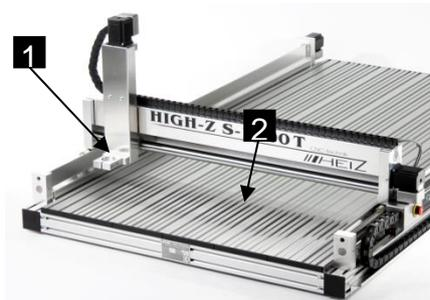

Fig. 17: Working Areas
- area of the tool holder (Fig. 17/1) (when turned off)
- Range of motion of the axes (Fig. 17/2) (when turned off) in order to clamp work pieces